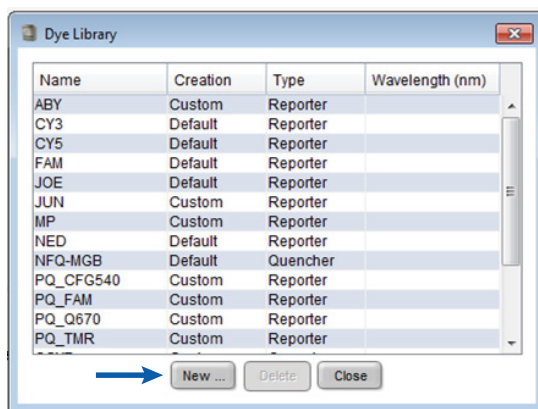

Figure 8. The New button in the 'Dye Library' window.
8. In the 'Dye Library' window that appears, select the **New** button (Figure 8).